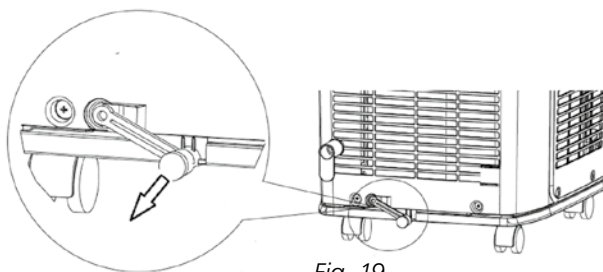

Fig. 19
- 1 Remove the rubber plug (see fig. 19).